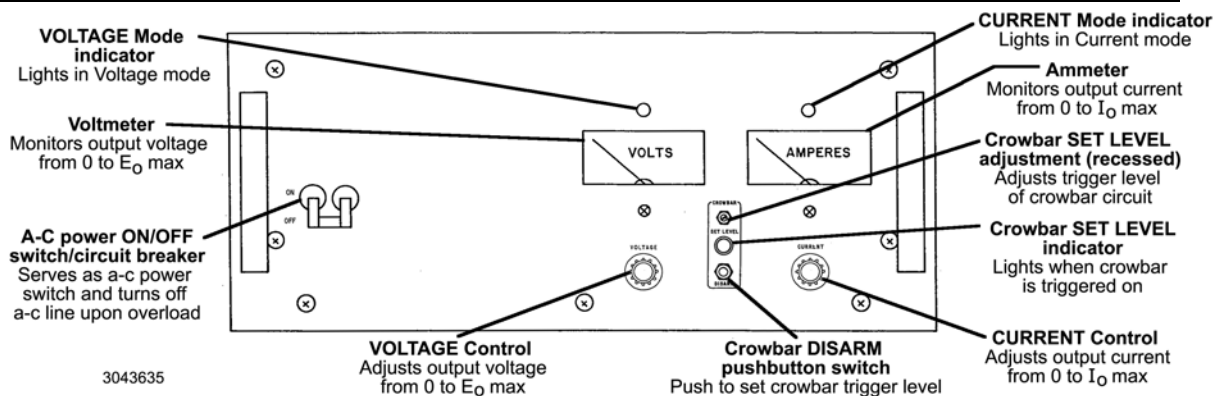

FIGURE 1. FRONT PANEL CONTROLS AND INDICATORS
The Kepco ATE with programmable overvoltage protector is a precision stabilized power supply which can deliver either stabilized output voltage or current. The prevailing operating mode is indicated by LED mode indicators at the front panel (Figure 1). Operating mode crossover is automatic and may be monitored remotely by means of a flag signal, available at the rear programming connector. The power supply features "full range" output control by means of 10-turn, high resolution front panel potentiometers for output voltage and output current. A pair of front panel meters constantly monitor the output voltage and output current.
3. Set the ATE front panel controls (Figure 1) as follows:
Turn the unit on using the front panel a-c power ON/OFF switch/circuit breaker (see Figure 1). **CAUTION: DO NOT repeatedly toggle the ON/OFF switch as this may cause unit to fault.** If actuator does not lock when released, wait a few seconds before trying again. The circuit breaker is “trip-free;” if overload exists, contacts cannot be held closed by actuator.